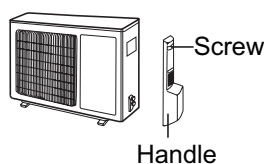

Fig. 21
- (1) Remove the screw on the right handle of outdoor unit and then remove the handle. (As show in Fig. 21)